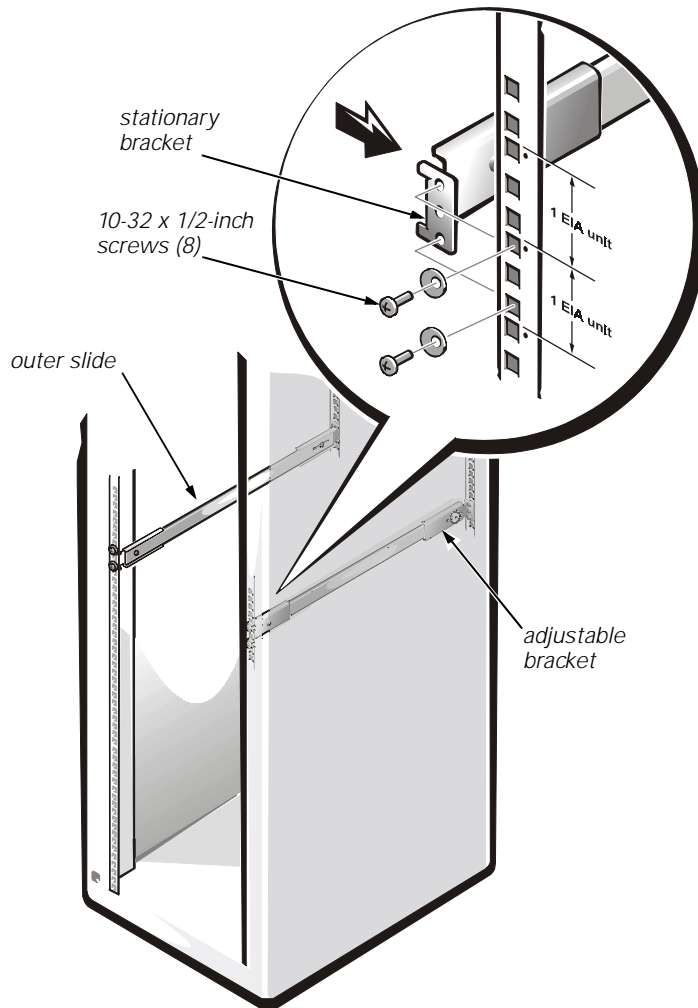

Figure 1-4. Mounting the Outer Slides on the Rack
The stationary brackets attach to the front of the rack. The adjustable brackets attach to the rear. The top hole of each bracket must align with top hole of an Electronic Industry Association (EIA) unit in the rack. The top hole of an EIA unit has a dot next to it (see Figure 1-4).
2. Use four 10-32 x 1/2-inch screws and four tapered washers to mount each outer slide in the rack, as shown in Figure 1-4.